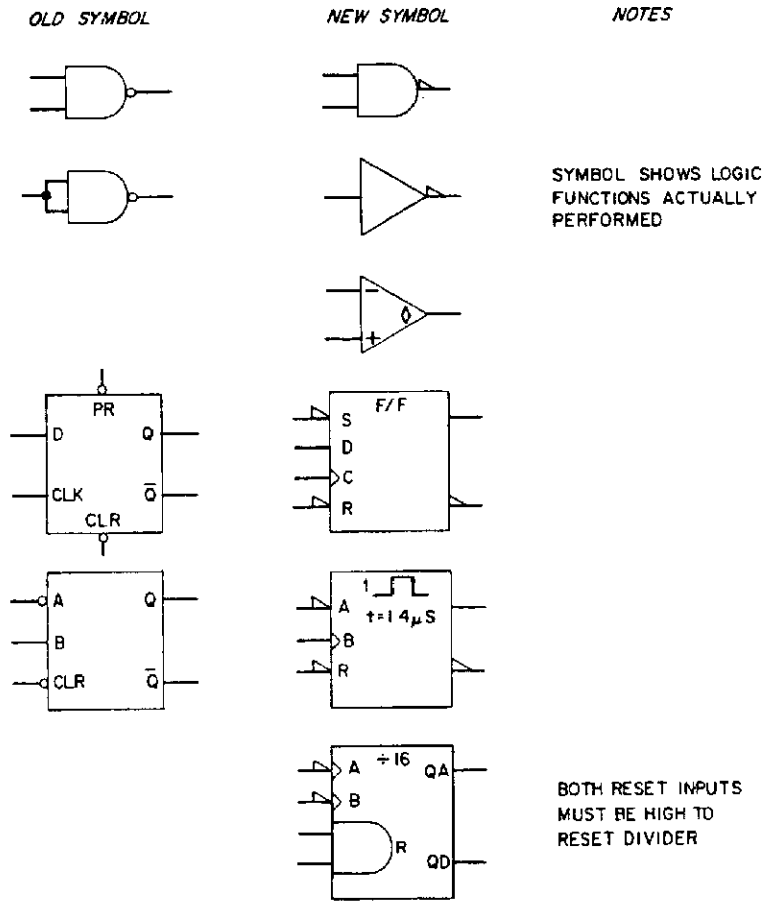

Figure 7-5. Waveforms
e. Power supply waveforms (Figure 7-5), illustrating waveforms found at key points in the power supply under various conditions.